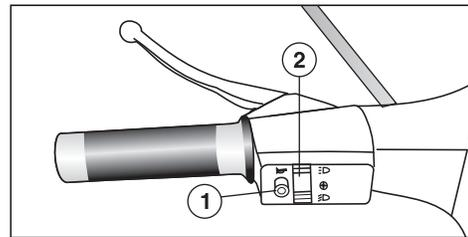

Fig. 14
3.2 **Left hand side of the handlebar (Fig. 14).**